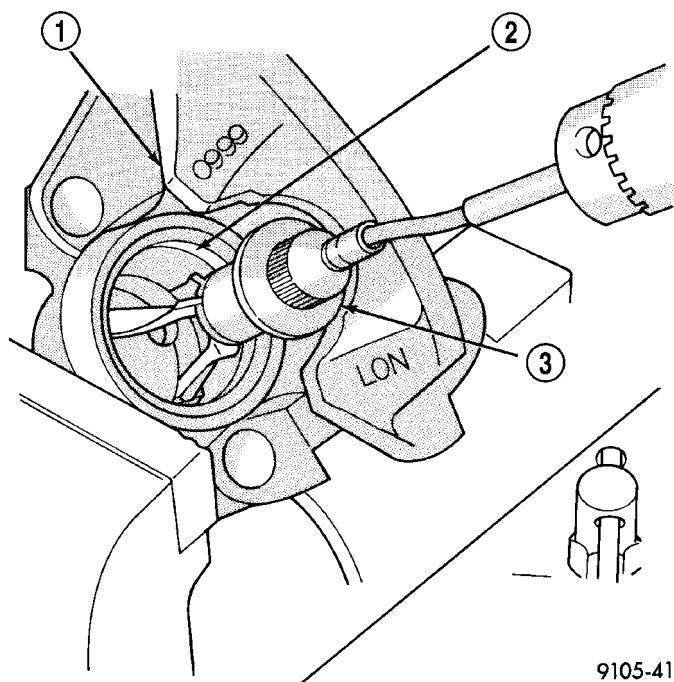

Fig. 31 Honing Brake Caliper Piston Bore
(7) Clean the piston bore and drilled passage ways using alcohol or a suitable solvent. Wipe it dry using only a lint-free cloth.
(8) Inspect the piston bore for scoring or pitting. Bores that show light scratches or corrosion can usually be cleared of the light scratches or corrosion using crocus cloth. Bores that have deep scratches or scoring should be honed. Use Caliper Hone, Special Tool C-4095 or equivalent, to hone the bore. Do not over-hone the bore. Do not increase the diameter of the bore more than 0.0254 mm (0.001 inch) (Fig. 31). If the bore does not clean up within this specification, a new caliper housing should be installed.